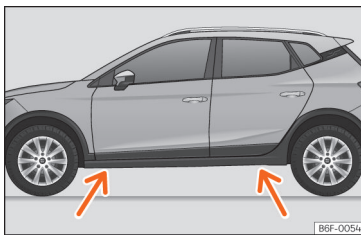

Fig. 198 Jack position points.
- Look on the crossbar for the mark of the jack support point (sunken area) closest to the wheel to be changed >>> **Fig. 198**.